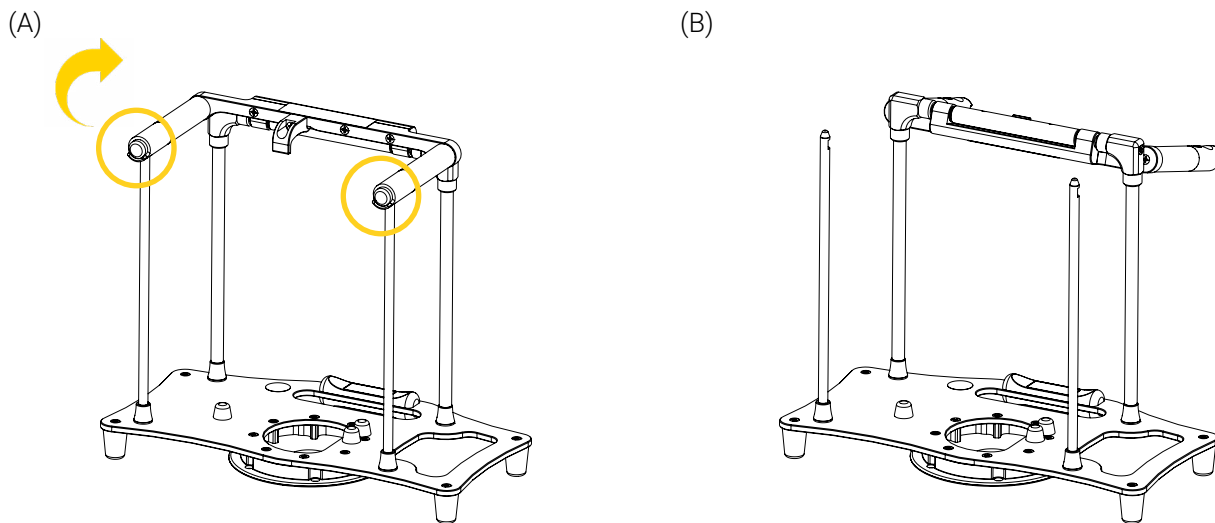

Figure 5: Unlocking and opening the support bracket
1. Press and hold the quick release buttons simultaneously, then flip the top of the support bracket towards the front (Figure 5).